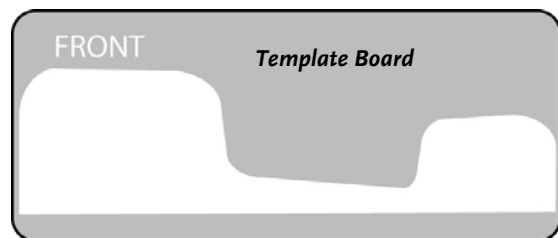

Figure 24
- n) Cut the contour out of the Template Board (**Figure 24**).